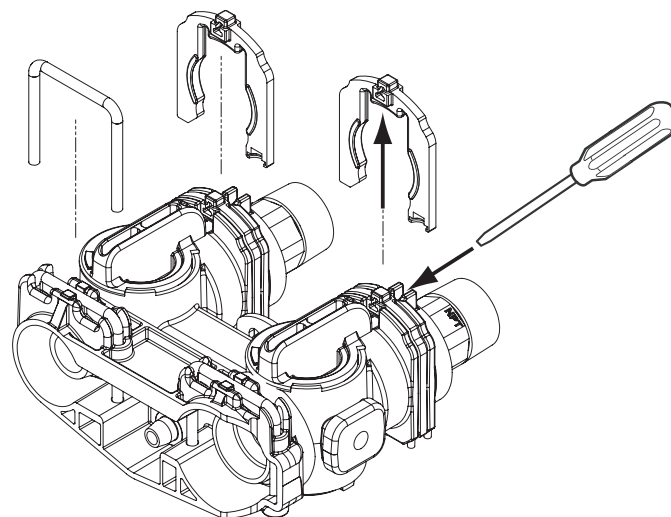

Figure 10 Connector Assembly
1. Locate parts and a roll of plumber's tape. The plumbing adapters should be removed (Figure 10 Connector Assembly).
3. Remove the clip by inserting a flat blade under the top center of the clip and lifting (prying up) (Figure 10 Connector Assembly).